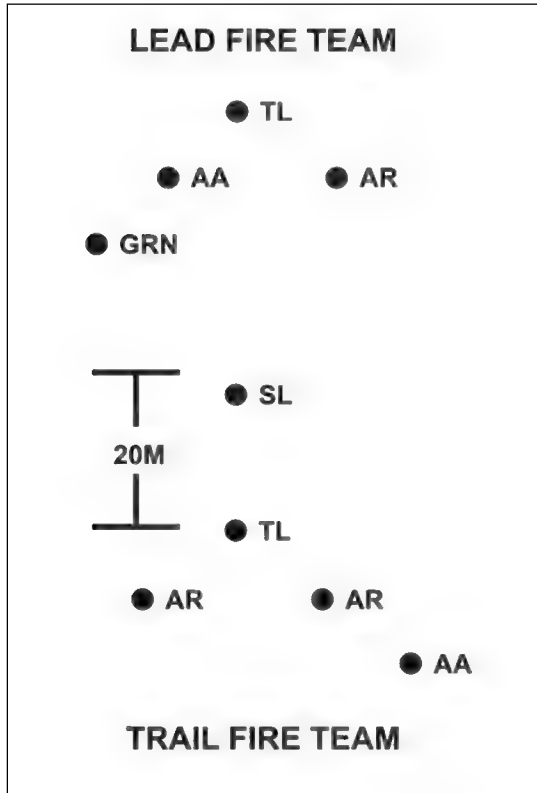

Figure F-11. Traveling movement technique.
(1) **Traveling.** The squad or platoon uses *traveling* (Figure F-11, page F-9) when contact with the enemy is not likely and they need speed.